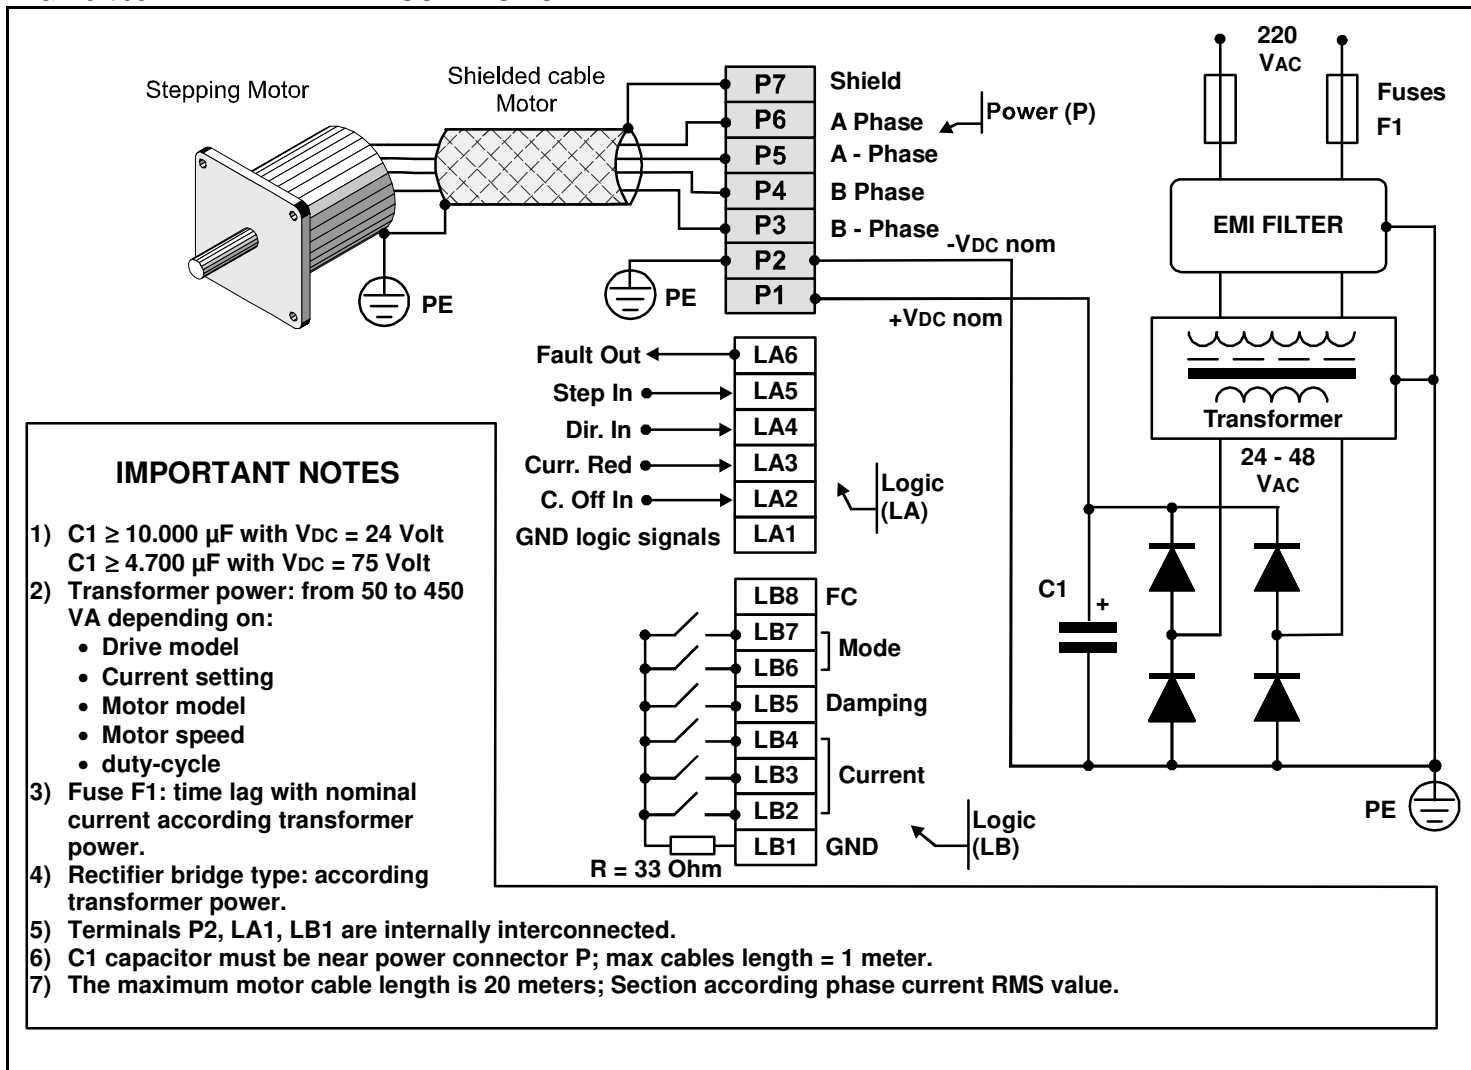

Fig. 2
- LA (1) **INTERNAL GND:** Logic inputs and outputs common. It can be used to connect the shield of logic signal cable if that is mandatory or useful depending on type of control system.
- LA (2) **CURRENT OFF INPUT:** When this signal is HIGH drive is active. When it is LOW drive is inhibited, thus motor current (and so holding torque) is turned to zero.
- LA (3) **CURRENT REDUCTION INPUT:** When this input is LOW current is reduced to 50% the value set.
- LA (4) **DIRECTION INPUT:** With this signal HIGH motor rotation direction is opposite to the one obtained with input LOW. This signal has to be valid at least 50 μsec. before STEP signal and has to stay in this state for at least 50 μsec. after last step sent to the drive.
- LA (5) **STEP INPUT:** Step is performed on HIGH-LOW transition of this signal. Suggested duty-cycle 50%. Max. frequency = 200 KHz with square wave signal supplied from a low impedance source (< 300 Ohm), 0-5 Volt.
- LA (6) **DRIVER FAULT OUTPUT:** When this output is SHORTED, drive is normally working; when it is OPEN drive is in no-working state. Drive automatically goes in no-working state when some protection is active and automatically recovers when the protection resets.
3) POWER INPUTS AND OUTPUTS (P, see fig. 2, 3)
- P (1) Power supply positive pole (+ V_{DC}).
- P (2) Power supply negative pole (- V_{DC}).
- P (3) Motor winding terminal **B-**
- P (4) Motor winding terminal **B**
- P (5) Motor winding terminal **A-**
- P (6) Motor winding terminal **A**
- P (7) Connection point for shield of motor shielded cable.
4) MAIN SETTINGS (LB, see fig. 2, 3)
Drive and all related cabling are source of E.M. interference (conducted and radiated). In order to comply to directive 2004/108/CE and related standards installation has to be done in strict accordance to schematics in fig 2 and following indications:
- Connection made to Protective Earth terminal (PE), shown in fig.2, must be short and have the lowest possible inductance.